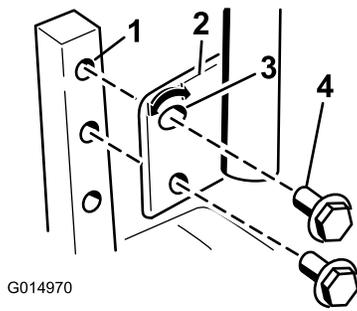

Figure 22
1. Remove the 2 bolts holding the control lever to the control arm shaft (Figure 22).
2. Move the control lever to the next set of holes. Secure the lever with the 2 bolts (Figure 22).
- Loosen the lower bolt just enough to pivot the control lever fore or aft (Figure 22). Tighten both bolts to secure the control in the new position.